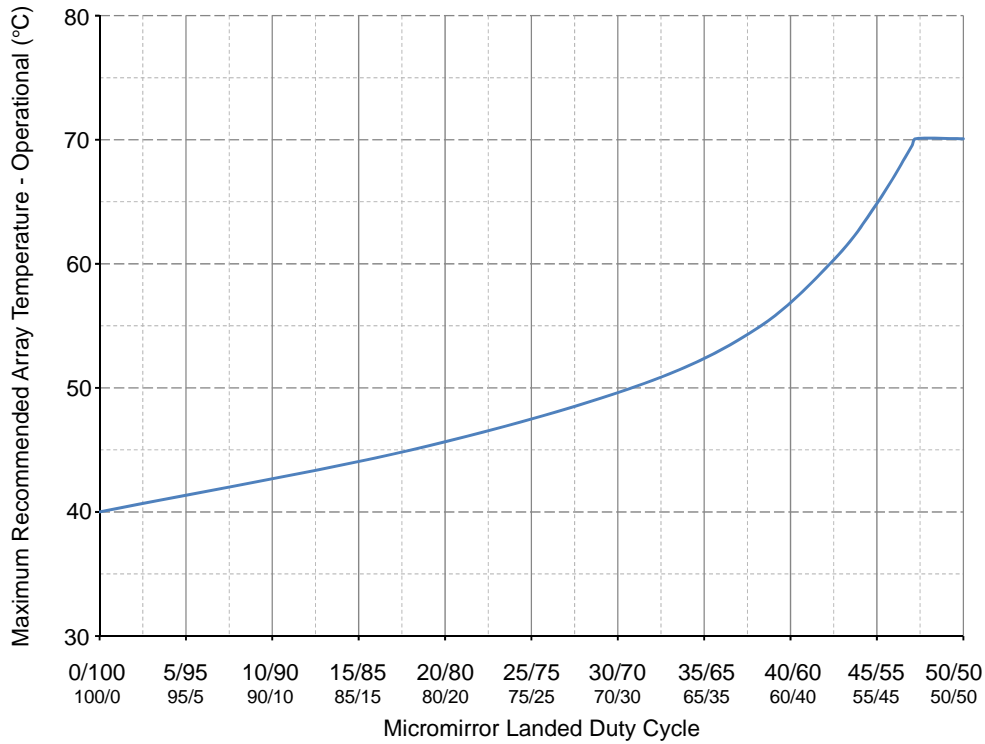

Figure 1. Maximum Recommended Array Temperature - Derating Curve
- (13) Long-term is defined as the usable life of the device.
- (14) Per Figure 1, the maximum operational array temperature should be derated based on the micromirror landed duty cycle that the DMD experiences in the end application. See *Micromirror Landed-On/Landed-Off Duty Cycle* for a definition of micromirror landed duty cycle.
- (15) Array temperatures beyond those specified as long-term are recommended for short-term conditions only (power-up). Short-term is defined as the cumulative time over the usable life of the device and is less than 500 hours.